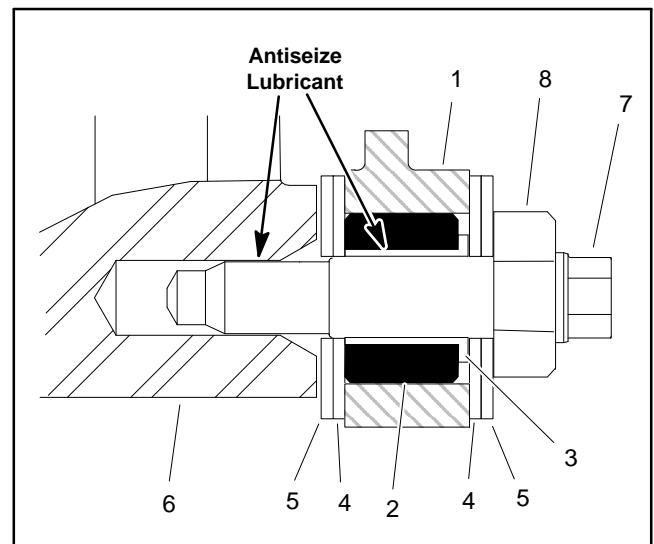

Figure 17
1. If rubber bushing was removed from either cutting unit side plate, apply grease to outside surface of new bushing and install into side plate. The bushing should be installed flush with the inside of the side plate (Fig. 17).
2. If removed, install the nylon bushings (item 15) with flange facing outward. Apply antiseize lubricant to inside of flange bushing.
3. Apply antiseize lubricant to the bedbar threads and the shoulder area of each bedbar pivot bolt (Fig. 17).
IMPORTANT: When installing washers (items 16 and 17), make sure that plastic washers are positioned on either side of the cutting unit sideplate (Fig. 17).
4. Slide one (1) metal washer (item 17) and then one (1) plastic washer (item 16) onto each bedbar pivot bolt.
5. Position bedbar into cutting unit. Make sure that the top of each bedbar arm is between washer (item 11) and adjuster screw flange (item 4).
6. Position one (1) metal washer (item 17) and one (1) plastic washer (item 16) between bedbar and each cutting unit side plate (Fig. 17).
8. Tighten both lock nuts (item 10) until outside washers do not have any endplay but still can be rotated. Do not over tighten the lock nuts as this can distort the side plates and affect reel bearing adjustment. When the lock nut is correctly tightened, there may be a gap at the inside washers.
9. Tighten the lock nut (item 13) on each bedbar adjuster assembly until the adjuster spring is fully compressed, then loosen lock nut 1/2 turn.